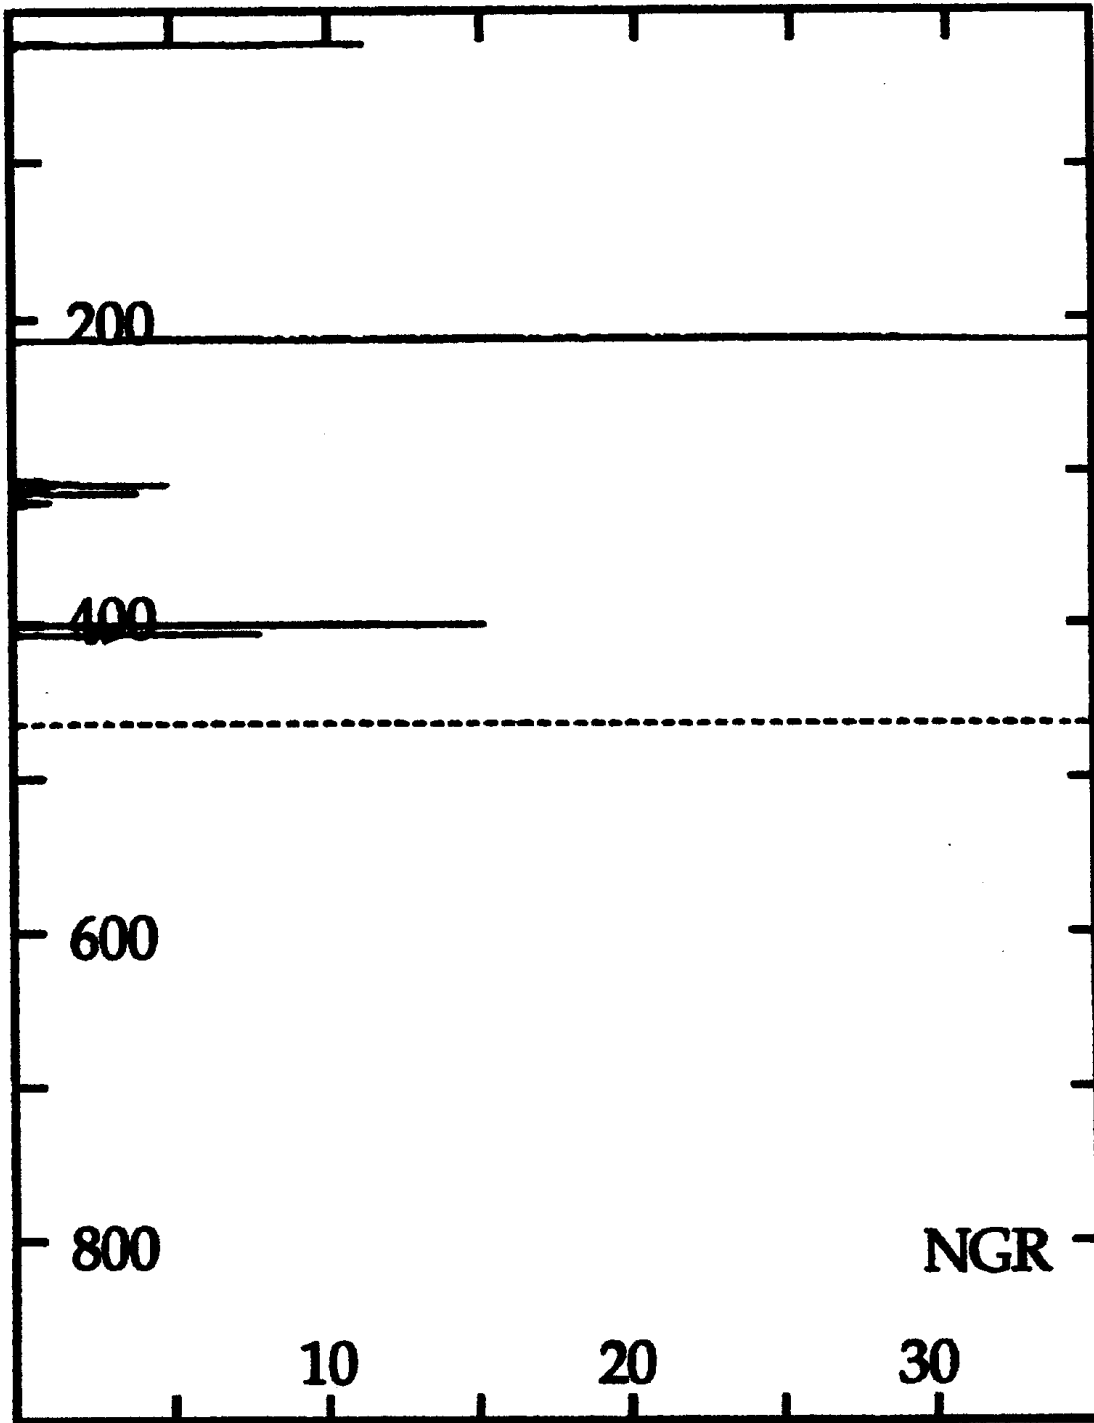

Figure 8h. No Good Reject (NGR)
- Fig. 8h:** The NGR flag is used if all or a portion of the profile is obviously erroneous.